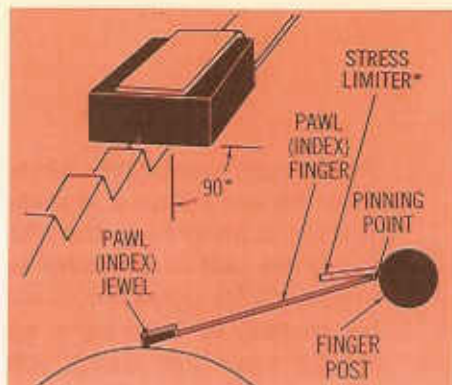

Fig. 10
3. Under the microscope, check to be sure that each finger is straight, that both jewels are centered on wheel (that both are neither too high nor too low) and that each is perpendicular to wheel (see Fig. 10). If index jewel is not centered, this can be corrected by the use of the Index Finger Post Wrench, which fits on the index finger post (located on one tine of the tuning fork). Placing the wrench over the end of the post, *gently* stress it in the proper direction to center the index jewel on the wheel, by bending the post. The pawl jewel can be centered by bending the pawl finger post with tweezers.
If either jewel is not perpendicular to the plane of the wheel (Fig. 10), this can be corrected by grasping the jewel finger (and stress limiter) close to the point where it is pinned, with tweezers (be careful not to touch the jewel itself) and twisting slightly.
Observe the stress limiters on index and pawl fingers (see Fig. 10). Check that no more than $\frac{1}{3}$ of the length of the stress limiter is in contact with the index or pawl finger. Also, check that end of stress limiter is no more than 3 thicknesses of the stress limiter away from index or pawl finger. If adjustment is necessary, use tweezers to bend stress limiter.